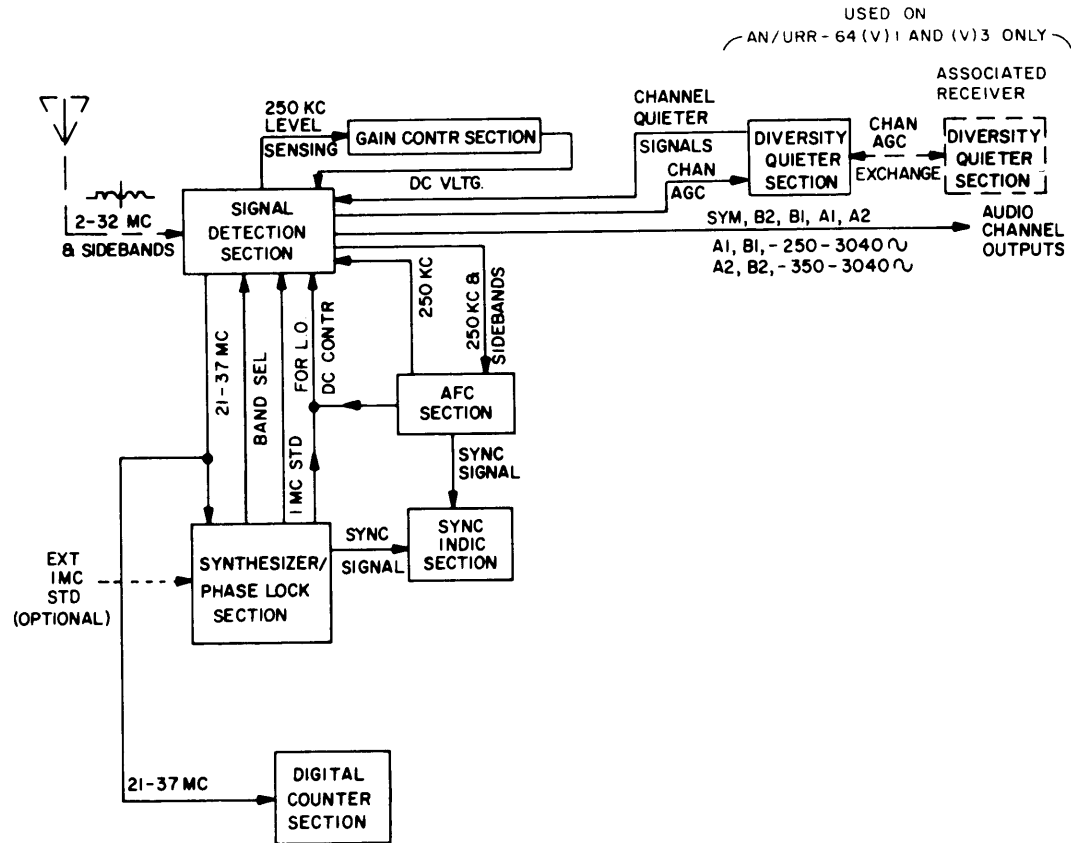

Figure 4-1. Overall Functional Block Diagram
- (1) Symptom recognition.
- (2) Symptom elaboration.
- (3) Listing probable faulty functional sections.
- (4) Localizing the faulty functional section.
- (5) Localizing the faulty modular unit within the functional section.
- (6) Localizing the faulty subassembly within the modular unit.
- (7) Localizing the faulty component within the subassembly.
d. LISTING PROBABLE FAULTY FUNCTIONAL SECTIONS. - Paragraph 4-2, Overall Functional Description, lists and describes the seven functional sections of the receiver (see figure 4-1) and includes a Troubleshooting Chart. The table lists symptoms-vs.-functional sections. On the basis of observations made in the previous step, and by referring to paragraph 4-2, it should be possible to pick out two or three of the sections that may be
a. INTRODUCTION. - Radio Receiving Set AN/URR-64(V)2 consists of six functional sections (see figure 4-1, Overall Functional Block Diagram). Paragraph 4-2, d. description of Diversity Quieter Section is applicable to Radio Receiving Sets AN/URR-64(V)1 and 3 only. These sections are described briefly in the following paragraphs.
e. SYNTHESIZER/PHASE LOCK SECTION. - This section sets the receiver for synthesized operation by locking all receiver frequencies to a 1 mc standard. It has two inputs: (1) a 21 to 37 mcs frequency from the receiver's hf oscillator and (2) a signal from the receiver's BAND selector setting. The output is a dc correction voltage to the hf oscillator from a phase locking section that automatically locks the receiver to the standard in the final phase of fine tuning. When phase locking has occurred, it sends a "sync" signal to the SYNC INDICATOR section.